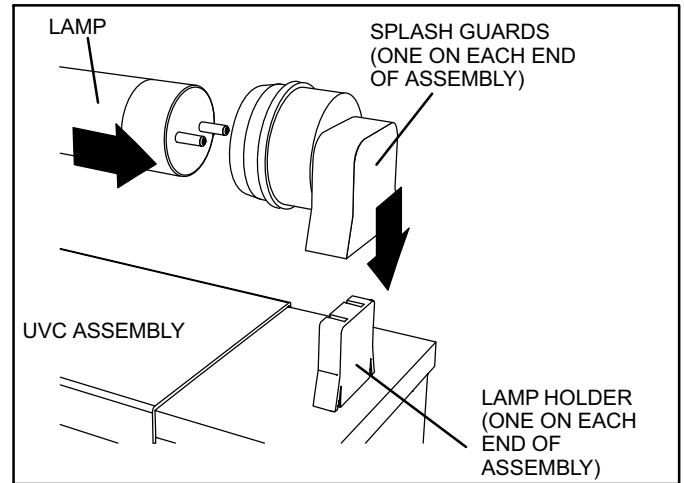

Figure 6. Install Lamp
- b) Wear cotton gloves or use a cotton cloth when handling the new lamp. Gently but firmly push the splash guards on each end of the replacement lamp. Align and insert the lamp with splash guard into the lamp holders of the UVC assembly until each end clicks into place (see figure 6).